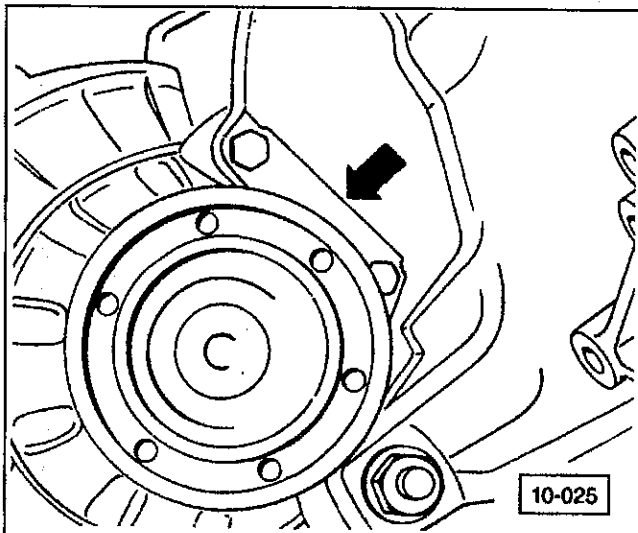

Fig. 18. Cover plate (arrow) to be removed. 4-cylinder engine shown.
2. On cars with automatic transmission, remove the three-nuts holding the torque converter to the drive plate working through the bottom of the transmission. Remove the cover plate. See Fig. 18.